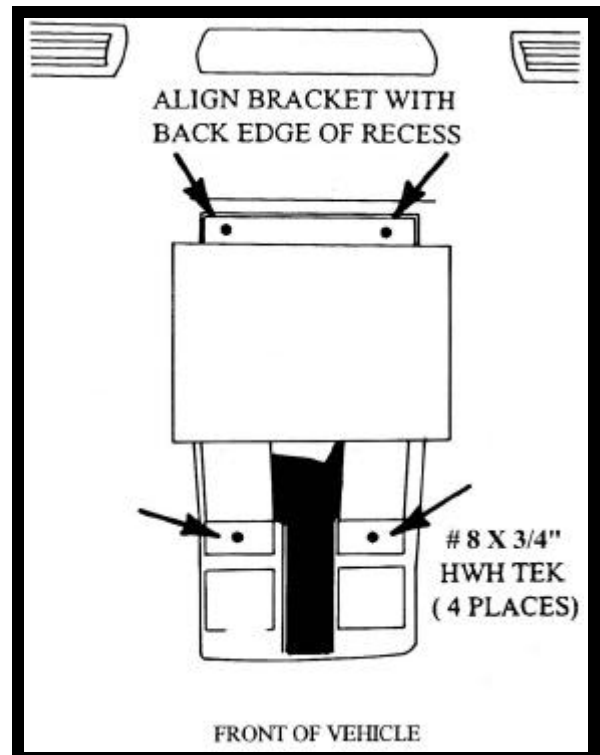

FIGURE 6
8. Secure bracket to sheet metal frame using (4) four # 8 x 3/4" TEK screws. See Figure 6.